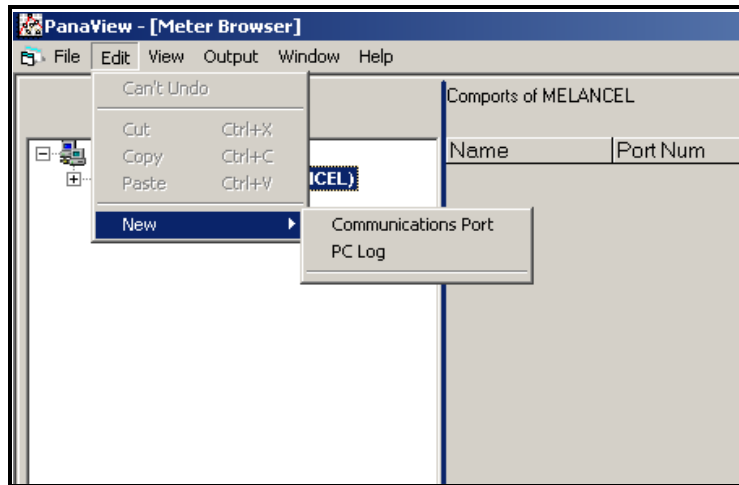

Figure 17: The Edit Menu
3. Click on the “New” menu option to select it, and a submenu opens with two choices on it (see Figure 17).